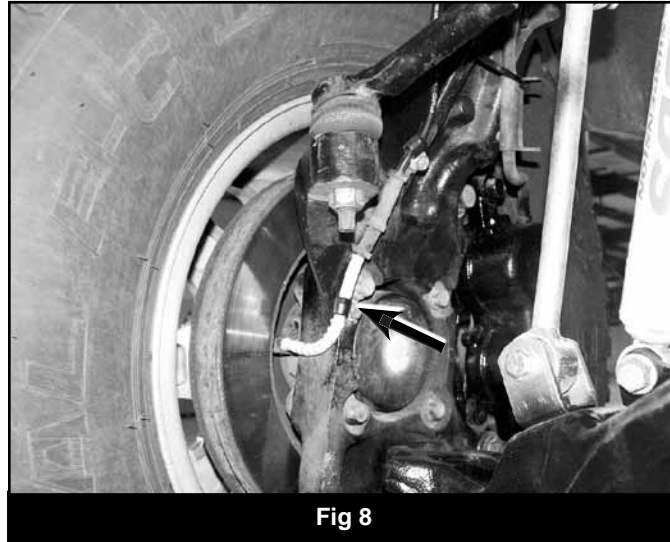

Fig 8
36. Attach the ABS line to the front side of the knuckle with the provided wire clamps and 1/4" x 3/4" bolts, 1/4" SAE flat washers and 1/4" lock washers from bolt pack #544. Torque to 10 ft-lbs. Attach the ABS wire to the upper control arm with the provided wire ties and reconnect the wire connector at the frame (Fig 8).